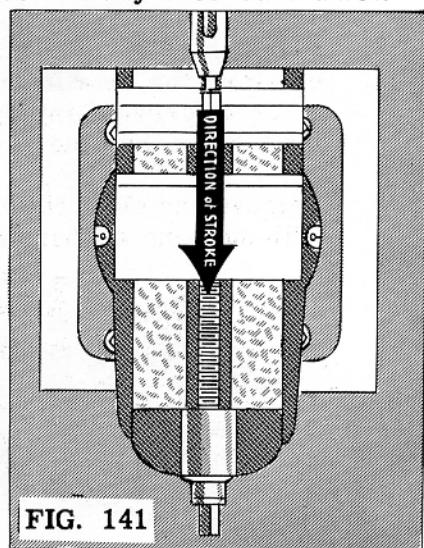

FIG. 141
2. Move the vise around until the handle of the vise is toward the front and the two zero marks on the vise coincide with the zero graduations on both sides of the base (Fig. 141).